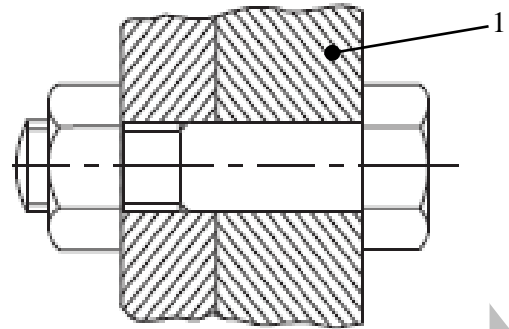

Figure 8
33. Name the element used to assemble parts 1 and 2 in figure 8 below.